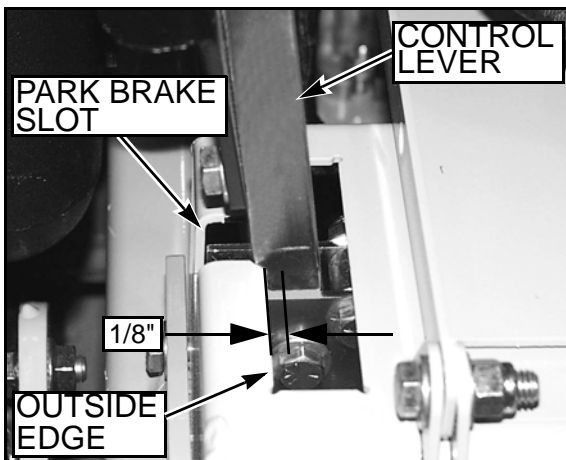

FIG. 28
5. Move the control lever to where it is just inside (1/8") the park brake slot "FIG. 28".
9. Place the control lever in the park brake slot "FIG. 28". The tire should not rotate when the control lever is in the park brake position.